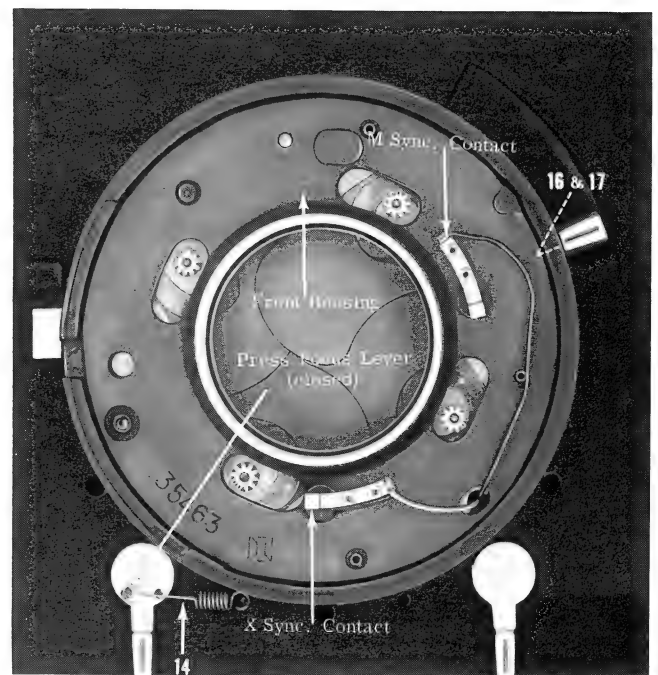
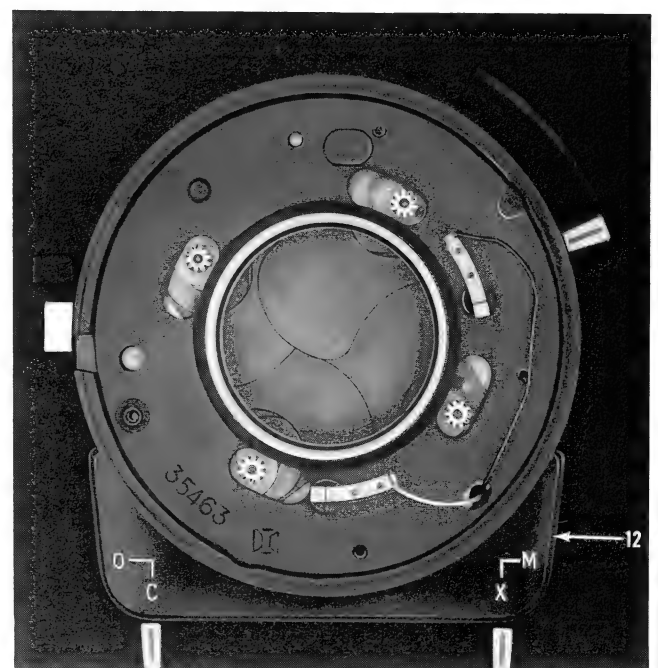
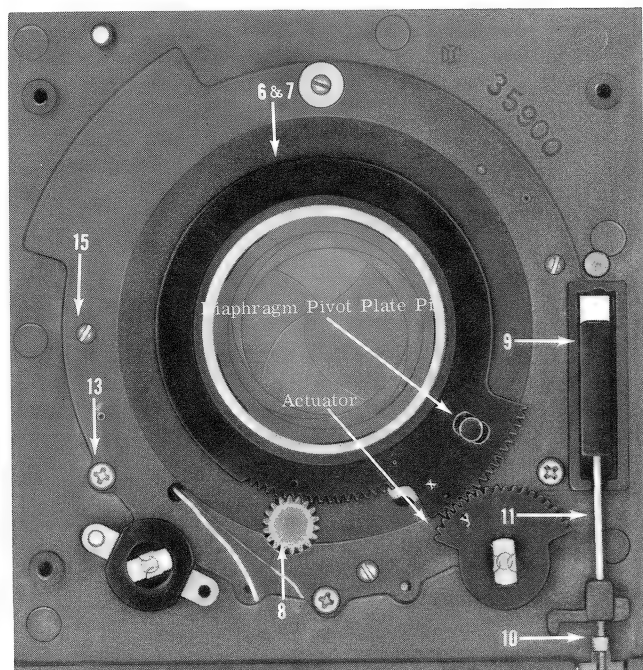

Figure 8.
Figure 9.
Figure 10.
Trip link assembly (11, Figure 10) not adjusted properly (Model 2A only)	Adjust (see para K)
9. Do not remove trip slide (9, Figure 10), crank follower (10) or trip link assembly (11) from shutter unless there is specific damage and one of these components requires replacement.
10. When removing front housing (Figure 8) ball (16) will be loose and under tension from spring (17).
g. Apply a light coat of lubricant (39484P9) to four shutter leaf eccentrics (19). Remove excess lubricant so that only a light film remains. Assemble one eccentric to each of the four posts on shutter leaf plate assembly and washer(s) (18), used as required, over each eccentric. (In repair, it is suggested that three be used on each post.)
h. Apply thin coat of lubricant (39484P8) to steel ball (16, Figure 8). Insert detent spring (17) and steel ball into lever portion of diaphragm plate assembly. Depress ball and spring while positioning front housing to rear housing. Insert contact leads thru holes in front and rear housings. Apply adhesive (39490P2) to threads of four screws (15, Figure 10) and secure front housing. Check eccentrics for free movement by rotating each eccentric thru a 15° arc. If eccentric binds or moves with difficulty, remove one of the washers by reaching thru the slot in the housing with a tweezers. Recheck movement and if necessary remove the second washer.
k. Assemble press focus spring (14, Figure 8) to press focus lever. Press focus lever is shown in the closed position. Maintain closed position throughout reassembly.
m. Position front cover (12, Figure 9) and secure with three screws (13, Figure 10).
n. On Model 2A assemble trip link assembly (11), crank follower (10) and trip slide (9).